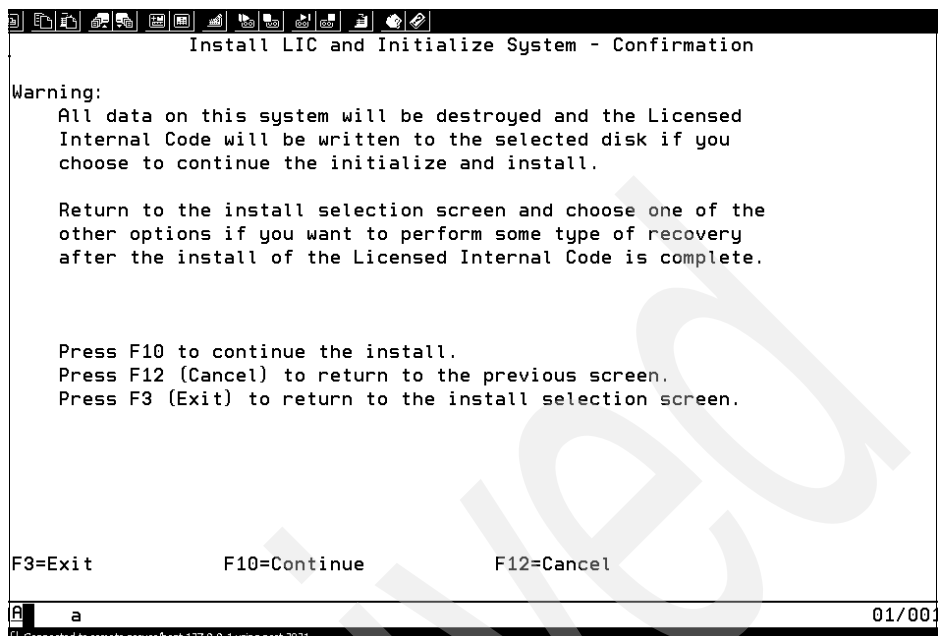

Figure 7-54 Confirm definition
10. The Confirmation panel opens, as shown in Figure 7-54 on page 292. This procedure causes existing data on the disk assigned to this logical partition to be lost. Press F10 to continue or press F12 to cancel and return to the previous panel.